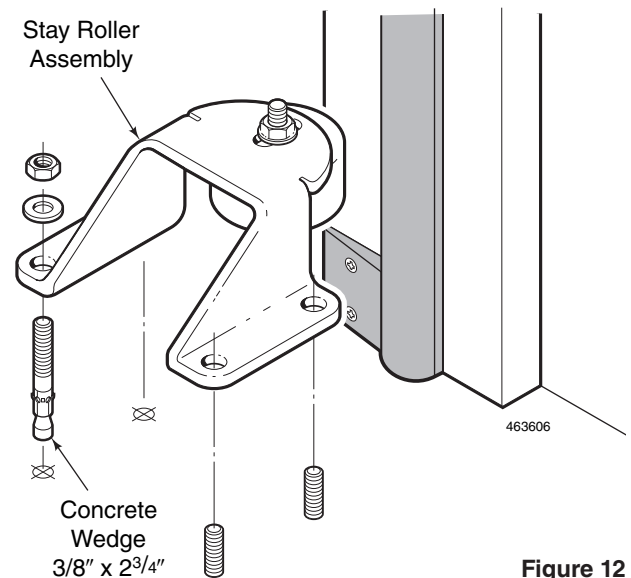

Figure 12
4. Use four $3/8" \times 2-3/4"$ concrete wedge anchors to fasten each Stay Roller to the floor. See Figure 12.